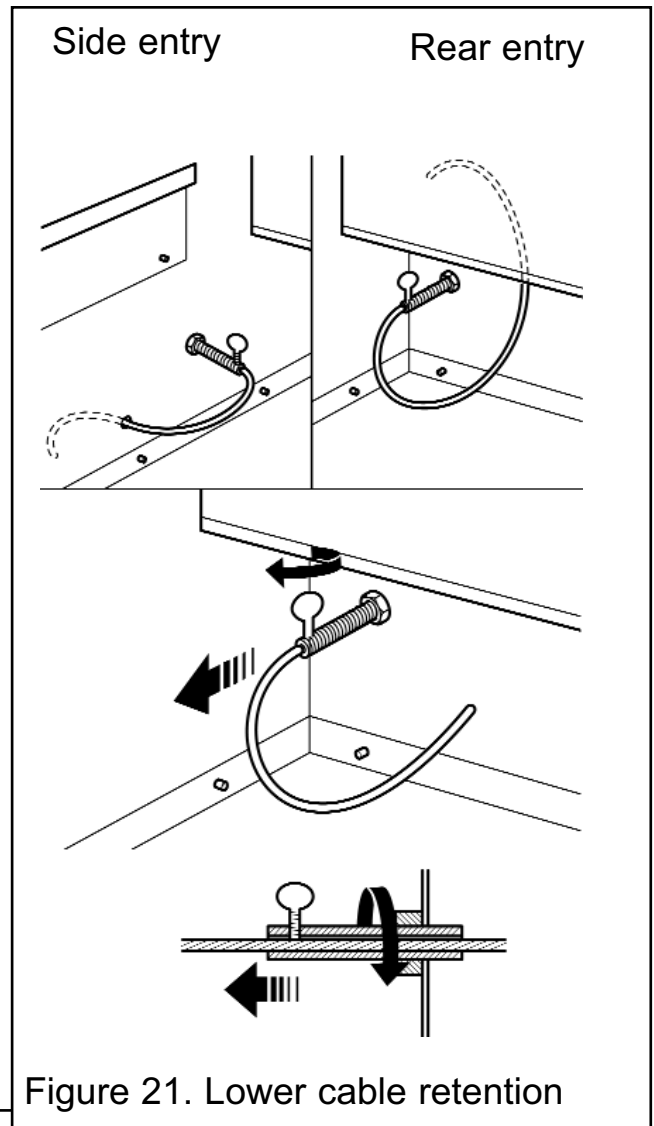

Figure 21. Lower cable retention
**11.** Pull each cable taut. Push the cable retainers hard up against the back panel. The end of the cable adjuster will pass into the hole. Tighten the screws in the retainers so that they clamp the cables in position. Apply tension to the cables by turning the hexagonal adjusters by hand (See figure 21).
**14.** Feed the free length of the cables into the gap between the inner and outer back panels so that they are available to allow easy removal and refitting of the appliance during subsequent service calls. **Do not cut off the free lengths of cable.** On precast flue installations feed the cables into the small holes at the base of the side panels (See figure 21).